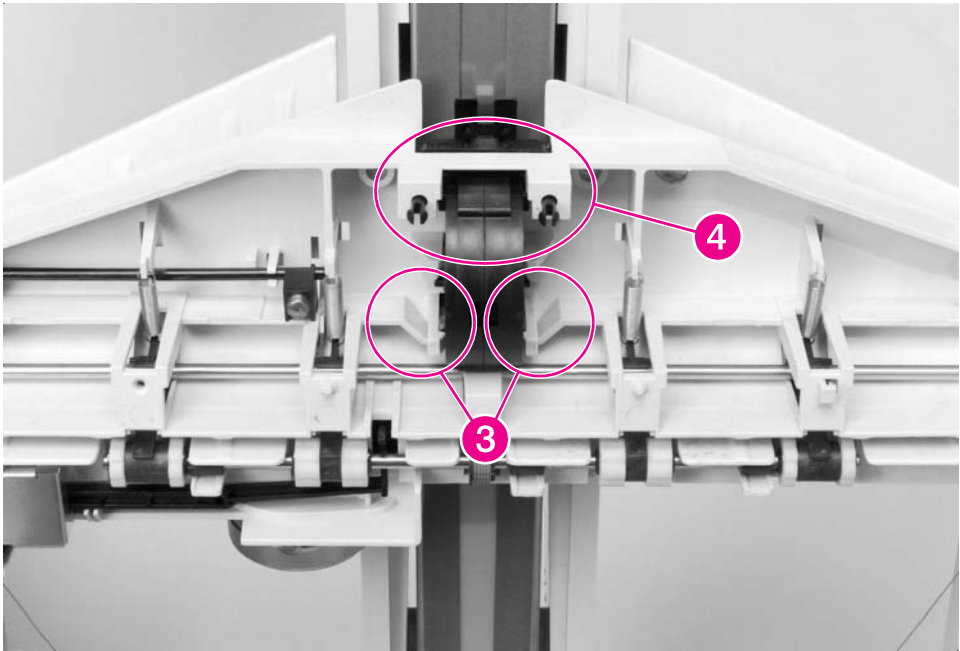

Figure 6-162 8-bin Mailbox Metal Tape and Housing Assembly (2 of 2)
- 5 Using a flat-blade screwdriver, release the plastic retaining tabs located on each side of the tape housing (Figure 6-162, callout 3).
- 2 Use the guide pins to reinstall the tape housing (Figure 6-162, callout 3). When the housing is correctly positioned, it will click into place.